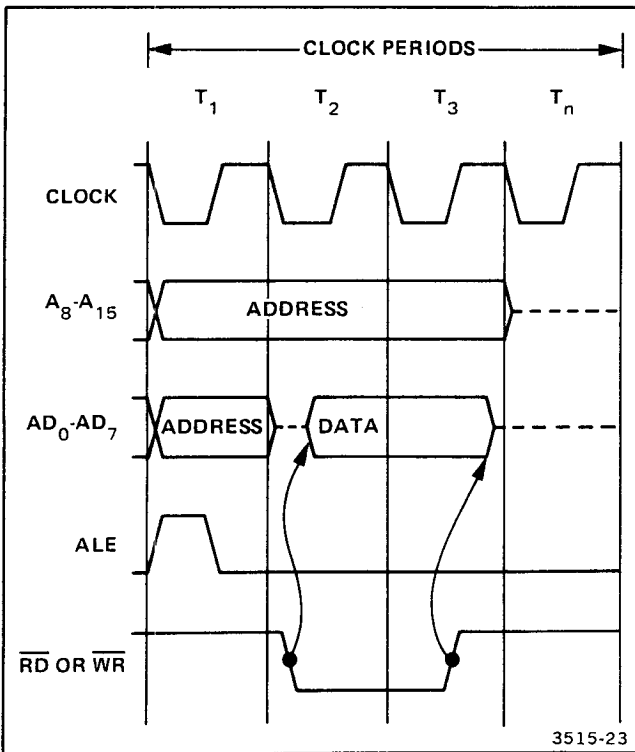
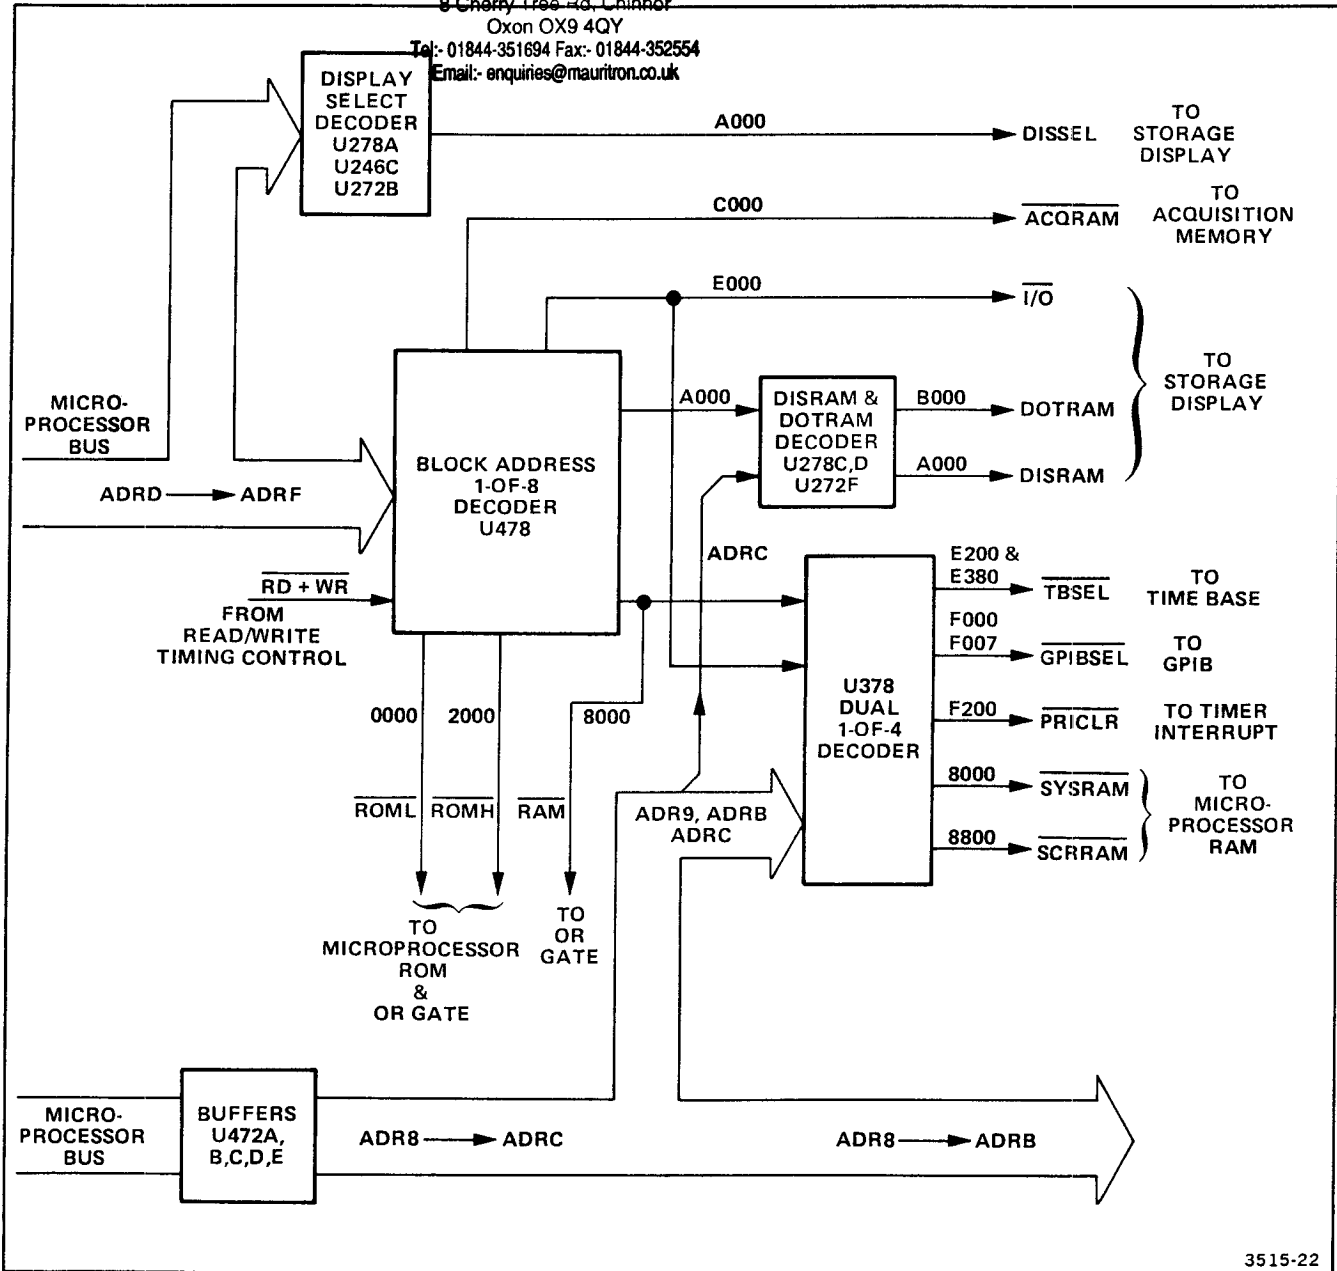

Figure 3-21. Address decoding timing diagram.
Figure 3-22. Detailed block diagram of the Address Decoding and Strobe Generation circuits.
Timing of the demultiplexing and data transfer is based on clock periods (Figure 3-21). On the MPU Board, demultiplexing is performed by Address Latch U550. When an address appears on the AD0 through AD7 lines during clock period  $T_1$ , the address latch enable signal (ALE) at U364 pin 30 goes HI, enabling the Address Latch U550. Also, the ALE signal is inverted by U272C and resets flip-flop U255A. The Q output of U255A goes LO to enable Address or Data Buffer U452. Approximately 200 ns later ALE returns LO, and the address on AD0-AD7 is latched into U550. Address information latched into U550 is available only on the Microprocessor circuit board. Other address latch-circuits throughout the instrument must latch addresses from the bus (via U452) on the rising edge of ALE from P130 pin 30.
Selection of a particular device address is performed in the Address Decode and Strobe Generator circuitry (Figure 3-22). The high-order addresses from the Microprocessor are decoded to determine the desired peripheral(s) to be activated, and an enabling strobe is generated to turn on the selected device. High-order addresses (A8 through A15) appearing on Microprocessor pins 21 through 28 are not multiplexed, and they are presented to the decoder input during clock periods  $T_1$  through  $T_3$  (Figure 3-21).
Address block  $Y_5$  is assigned to select either the Display RAM or the Dot RAM (both located on the Storage Display Board). The decoded block  $Y_5$  addresses from U478 pin 10 are applied to a 1-of-2 decoder circuit composed of U278C, U278D, and U272F. Address line ADRC is also applied to this decoder circuit to control which strobe is produced at the output (DISRAM or DOTRAM). When ADRC is LO at U278 pin 9, block  $Y_5$  will be gated through U278C to become the DISRAM strobe. When ADRC is HI, block  $Y_5$  will be gated through U278D to become the DOTRAM strobe. The DOTRAM strobe selects a 1024 by 1-bit RAM which is used to produce the TIME cursor dots. A DISRAM strobe selects the 1024 by 8-bit Display Memory RAM. Timing of the block  $Y_5$  DISRAM and DOTRAM strobes is controlled by processor  $\overline{RD}$  or  $\overline{WR}$  signals which occur during clock periods  $T_2$  and  $T_3$  (see Figure 3-21). A select signal is required in clock period  $T_1$  for use on the Storage Display Board, therefore additional block  $Y_5$  decoding is performed by a circuit consisting of U278A, U272B, and U246C. The A13 through A15 Microprocessor lines are applied to this decoding circuitry to produce a DISSEL strobe beginning in clock period  $T_1$ . The DISSEL strobe is produced when A13 and A15 are HI and A14 is LO.
**DATA TRANSFER.** At the beginning of clock period  $T_2$  (Figure 3-21), the information on the AD0 through AD7 multiplexed lines becomes undefined, causing either the  $\overline{RD}$  or the  $\overline{WR}$  signal from U364 to become LO. At this time, the  $\overline{RD} + \overline{WR}$  signal, generated by U278B at pin 4, also goes LO at U478 pin 5 to activate the selected address that was set up in U478 during clock period  $T_1$ .